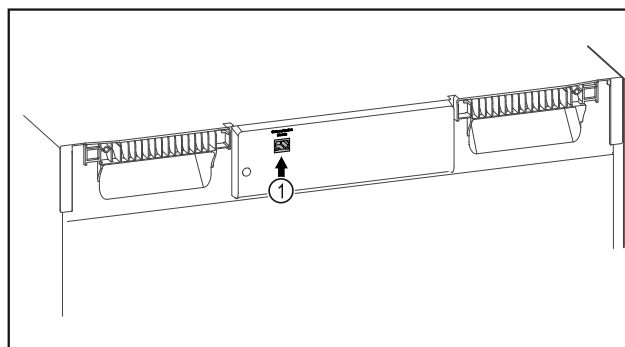

Fig. 110
- ❑ SmartModule Fig. 110 (1) is in use.